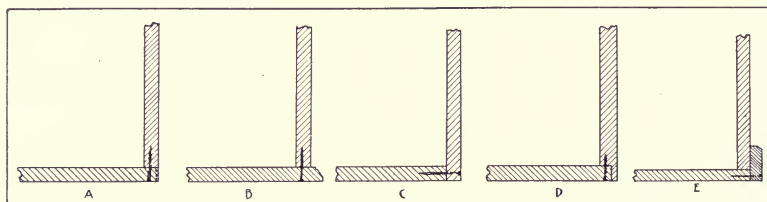

Fig. 284. Methods of Attaching Box Bottoms.
*The Bottoms of Boxes.* The plain or full bottom, Fig. 284, A, is likely to shrink (see dotted line), and it is held in place only by the friction of the nails. The extended bottom, Fig. 284, B, overcomes the objection to shrinkage and adds a decorative feature. The bottom may be set in, Fig. 284, C. This is stronger than the plain bottom, but the nail holes show. The bottom may be rabbeted in, Fig. 284, D. This is better than the set-in bottom so far as the showing of the nail holes goes, for the nails may be driven in from below, and a little shrinkage is not conspicuous. It is practicable, if a rabbet or mitered joint is used in the sides, but if the side pieces are butted or dadoed, the rabbet for the bottom shows. This
Reinforced bottom, Fig. 284, E. A plain or full bottom is sometimes covered by a base or cover strip to hide the joint and secure the bottom, as in tool chests. This strip may be mitered at the corners.